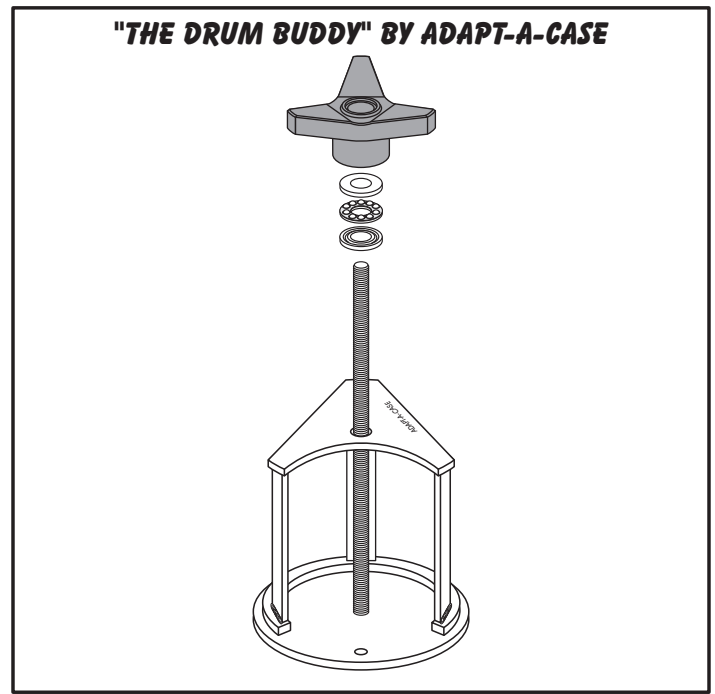

Figure 155
*Note: We used one part of the "Drum-Buddy" by Adapt-A-Case (See Figure 155).*